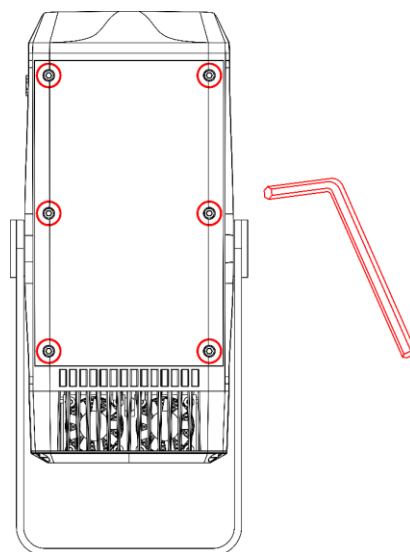

Fig. 13
- 03) Loosen the 6 hex screws on the maintenance cover, as shown in Fig. 13.